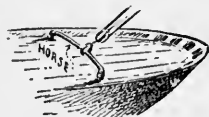

FIG. 2.
2. In fore-and-aft rig, an iron bar or rail, running athwart a deck, or the stern of a boat, upon which a sheet-tackle travels. (See fig. 2.) Many yachts, and even open boats, are fitted with a horse for the main sheet block; and in fishing craft we often find one forward of the mast upon which the foresail travels, obviating the necessity for fore-sheets. In this latter case the leech of the foresail carries a pendant (hanging rope) by means of which the sail, when it has travelled over the horse, is held fast to the shrouds. A foresail thus manipulated is called a "working foresail."